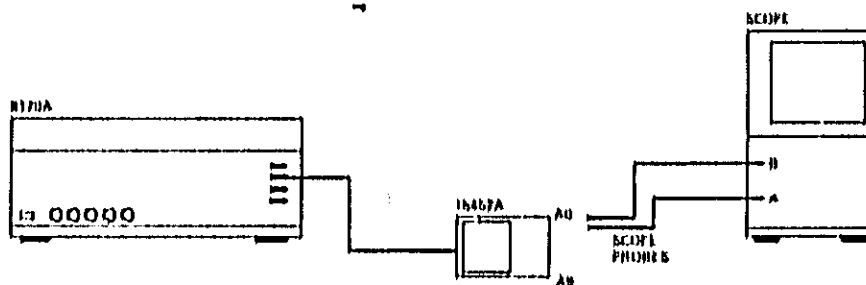

Figure 4-5, Test Setup for Address Output Function Test
1. Connect equipment as shown in Figure 4-5.